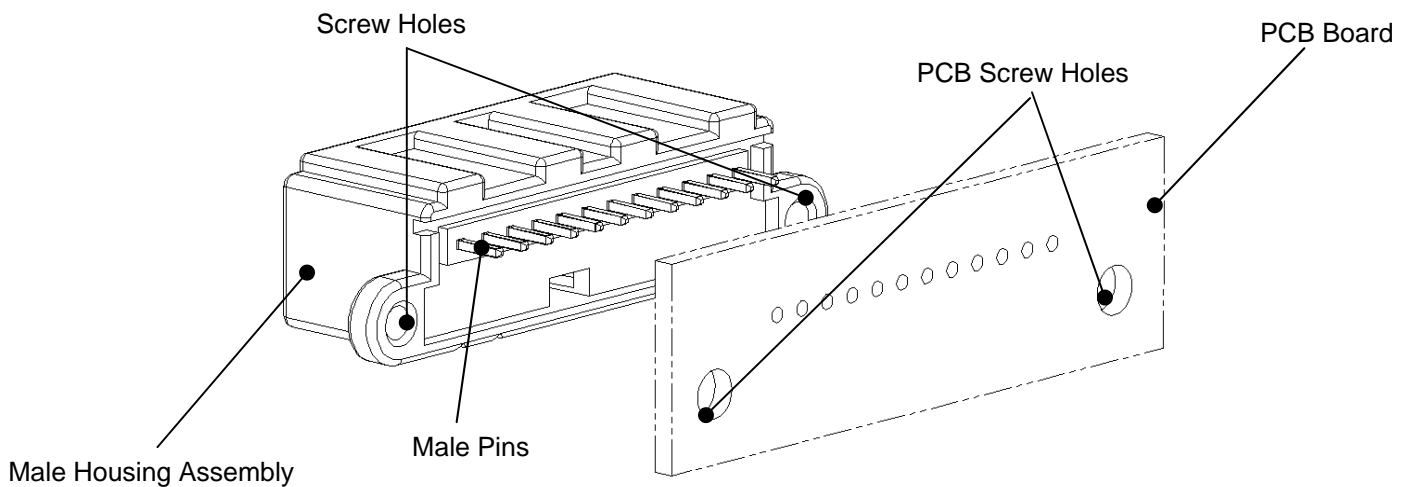

Figure 25. Polarization of the Male Assembly with the PCB Board (e.g. 12 positions)
- d) When placing the male housing assembly on the PCB board, check to see if the Male pins and the screw holes are in the proper alignment with proper holes on the PCB board. See Figure 25.